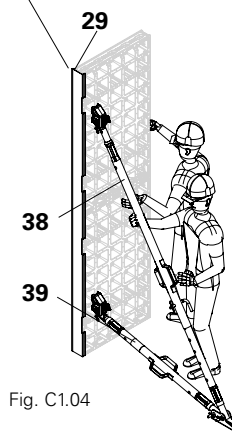

Fig. C1.04
4. Mount the push-pull prop (38) and the kicker brace (39) on the pre-assembled DUO brace connectors (27). Mount the push-pull prop and kicker brace on the base plate and fix the base plate with anchor bolts. (Fig. C1.04)